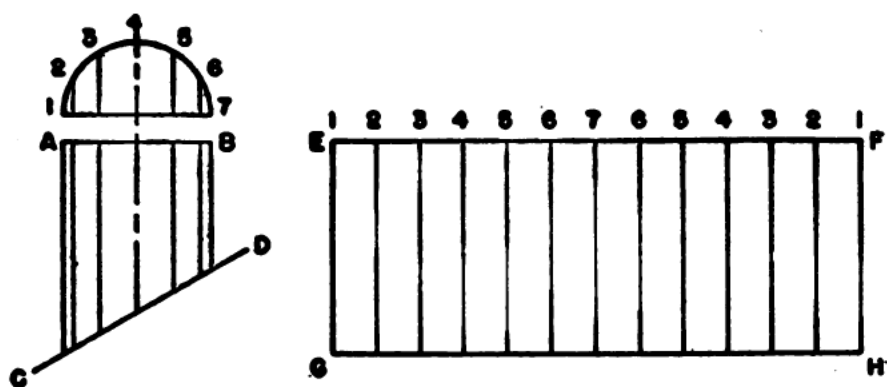

Figure 58.—Development of layout for intersecting pipe.
3. Now draw lines parallel to the center line from points 1, 2, 3, 4, 5, 6, 7 on the circumference of the half plan to the miter line (see fig. 58).
6. Through the points 1-7-1 draw parallel lines as shown in figure 58.